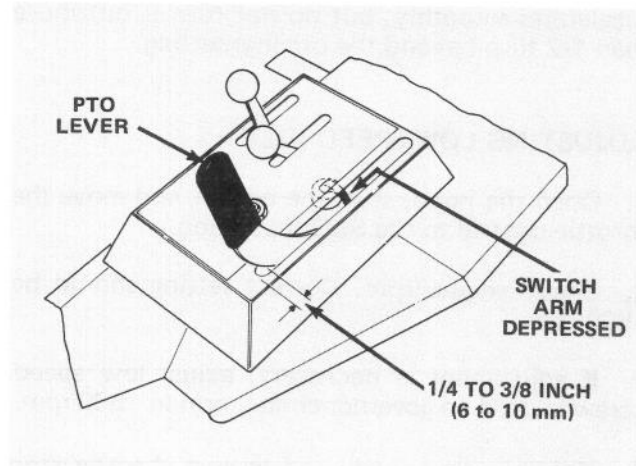
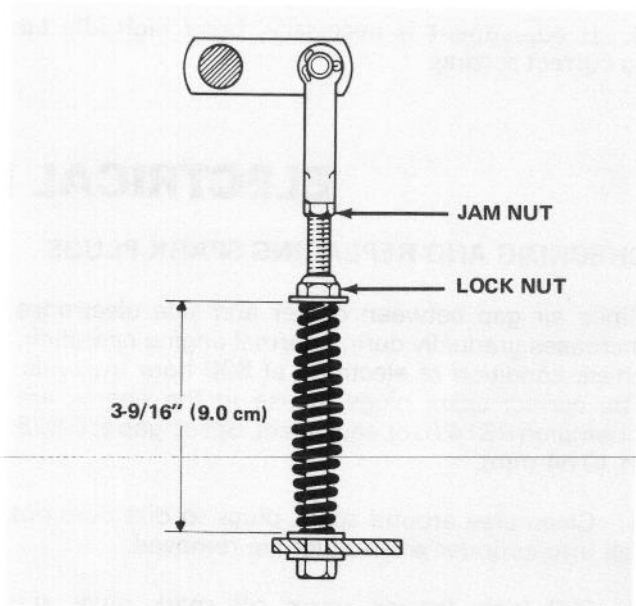

Figure 39
Figure 40
1. Visually check PTO lever to be sure it deflects switch arm when lever is in the disengaged position (Fig. 39). Back surface of PTO lever must be within 1/4 to 3/8 in. (6 mm to 10 mm) from end of the slot (Fig. 39). If PTO lever does not deflect switch arm, proceed to step 2.
2. Pull high tension wire off spark plugs. To adjust the PTO lever, remove the seat cover. Loosen jam nut from PTO engaging yoke (Fig. 40). Loosen adjusting screw until PTO lever is within 1/4 - 3/8 in. (6-10 mm) from end of the slot, when lever is in the disengage position (Fig. 39). This will deflect the switch arm. Tighten jam nut against yoke to lock the adjustment in place (Fig. 40). Move PTO lever to disengage position and rotate locknut at top of spring until the dimension of spring, between the top and bottom flatwasher, is 3-9/16 in. (9.0 cm) (Fig. 40). Repeat step 1.